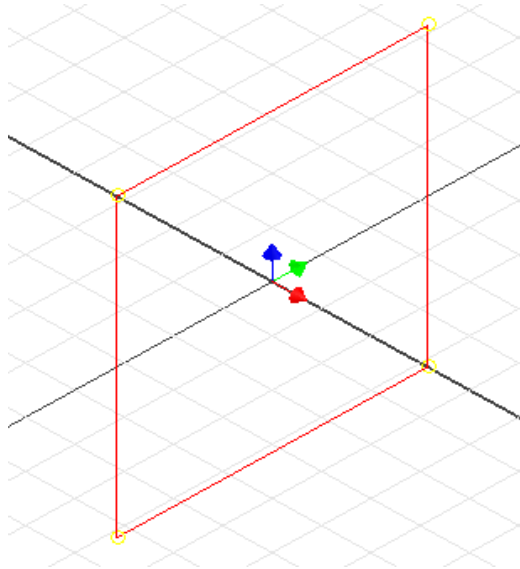

**Figure Step 4A**
**Step 4** Place the cursor on the XZ Plane in the Browser Bar. Note the orientation of the plane on the sketch. (Figure Step 4A and 4B)